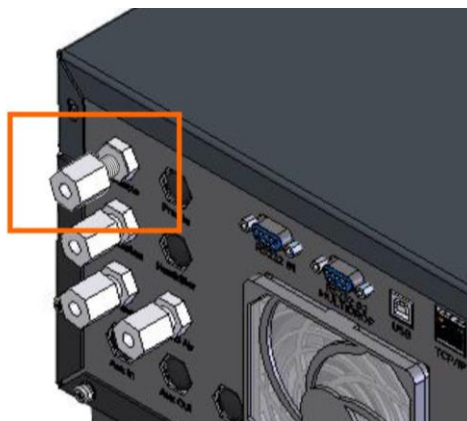

Figure 29 – Replace Nut Loosely
4. Refer to Figure 29. Replace the nut loosely, only 2 or 3 threads, on the sample port.